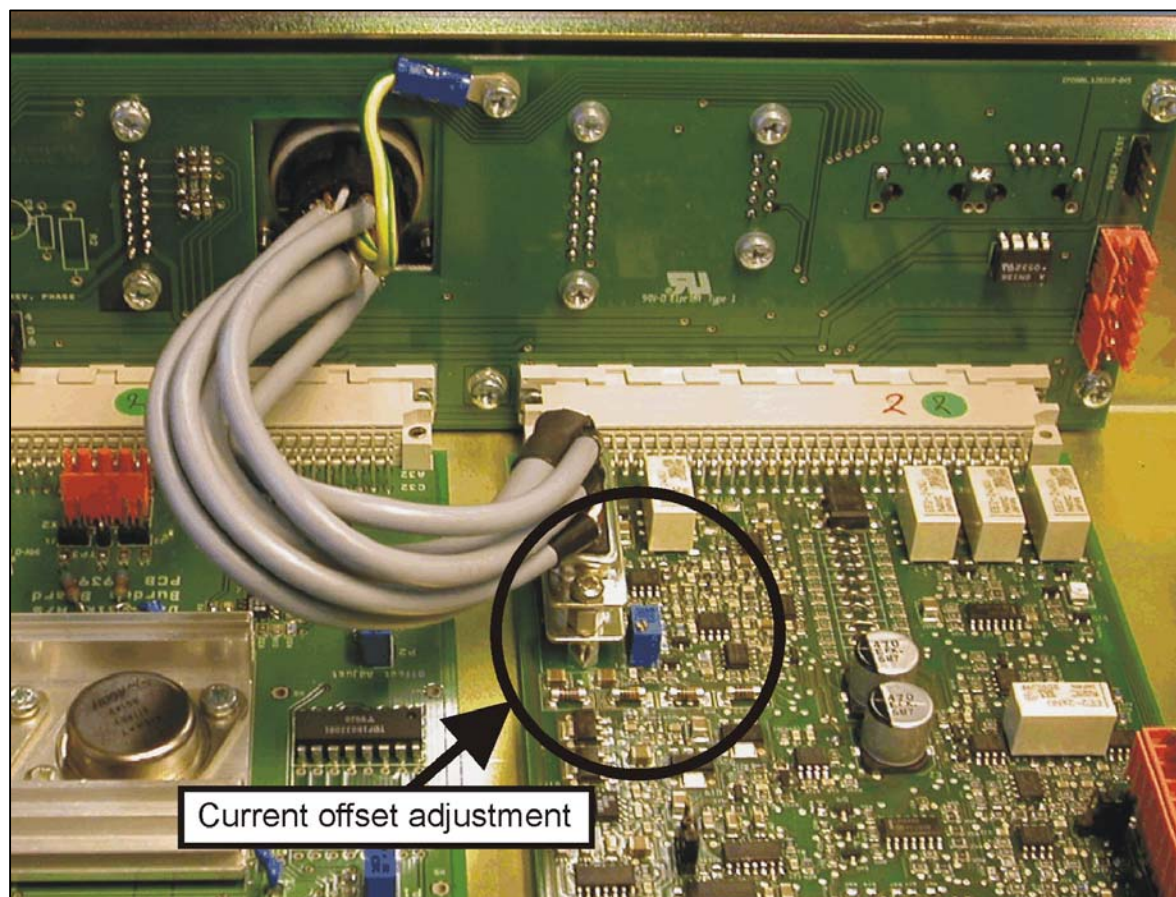

Figure 7
6. Locate the offset adjustment potentiometer on the TEM (see fig. 7)